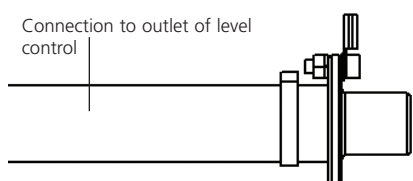

Figure 2a: Hose assembly 1
- 9 Refer to fig. 2a. Connect the 16mm tubing to the earthed spigot of hose assembly 1 hose and secure with a tie-strap.